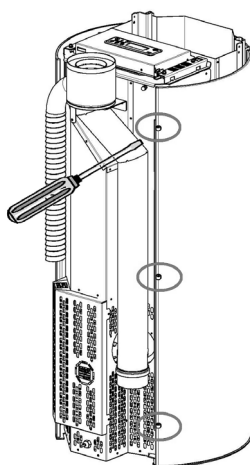

Fig. 72 - Remove screws
- Loosen the rear screws of the sides (see **Fig. 72**).